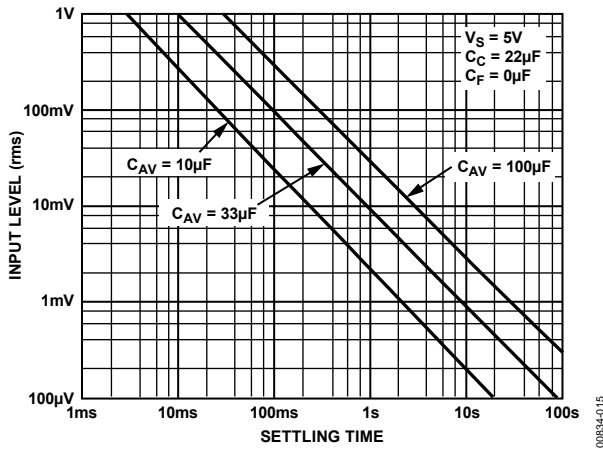

Figure 16. RMS Input Level for Various Values of  $C_{AV}$  vs. Settling Time
**CALCULATING SETTling TIME USING FIGURE 16**
Figure 16 can be used to closely approximate the time required for the AD736 to settle when its input level is reduced in amplitude. The net time required for the rms converter to settle is the difference between two times extracted from the graph (the initial time minus the final settling time). As an example, consider the following conditions: a 33 μF averaging capacitor, a 100 mV initial rms input level, and a final (reduced) 1 mV input level. From Figure 16, the initial settling time (where the 100 mV line intersects the 33 μF line) is approximately 80 ms.